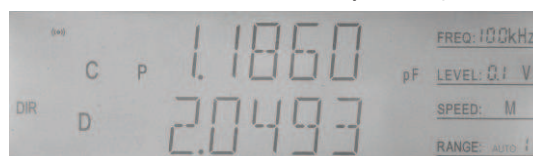

Figure 4-1 Test status
- 2) The instrument enters test status after self-inspection, as shown in Figure 4-1.